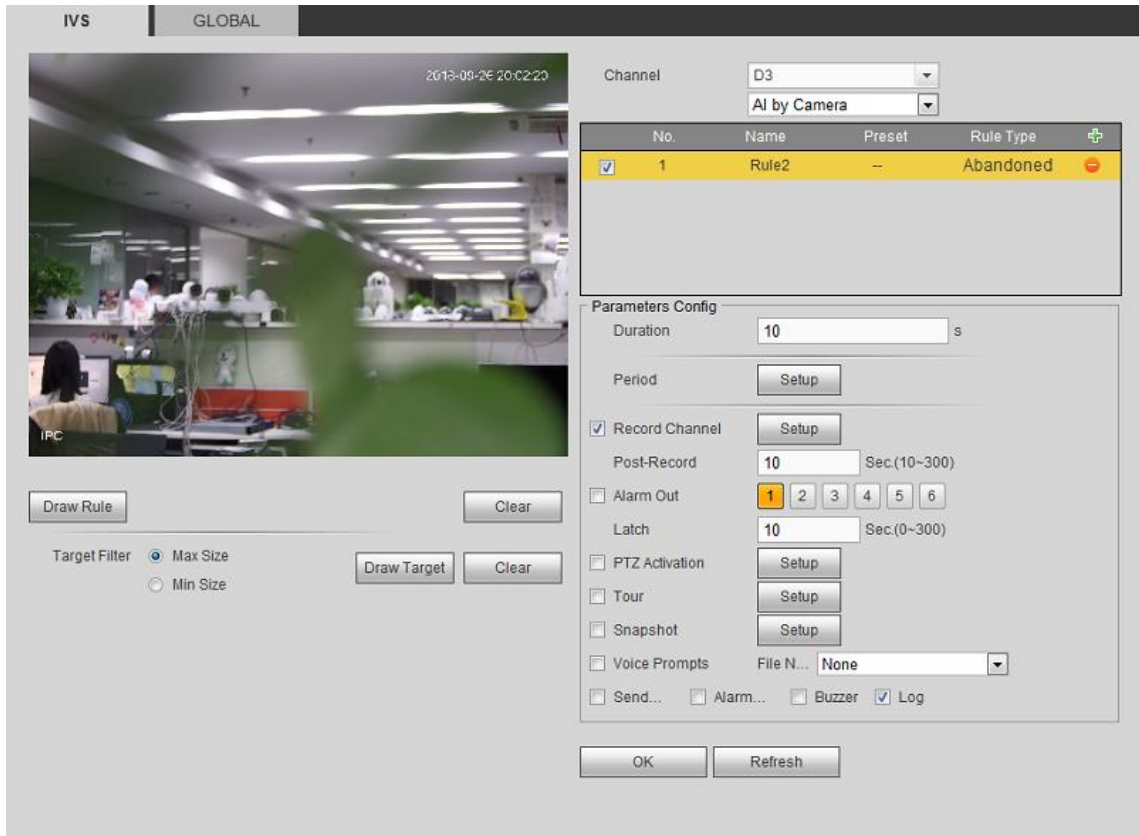

Figure 5-74
Step 2 In the drop-down list, select Abandoned. See Figure 5-74.